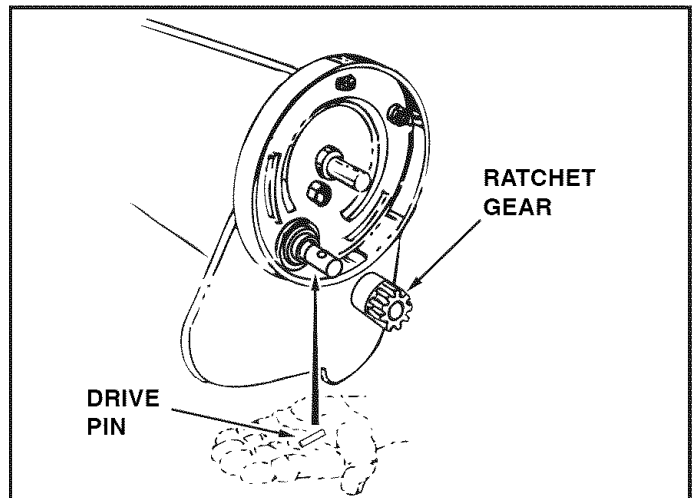

FIGURE 28
- Slide the gear off of the brush shaft. (Look for the drive pin, which may fall out of the brush shaft when the ratchet gear is removed.) See figure 28.